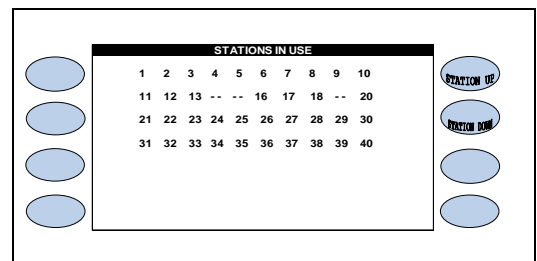

Figure 2.6
The STATIONS IN USE screen is displayed (Figure 2.6)
4.  Press the **PLUS** or **MINUS** keys to turn off the station, two dashed lines will appear instead of the station number. In figure 2.6 station 14, 15, and 19 are turned off. To turn them back on,